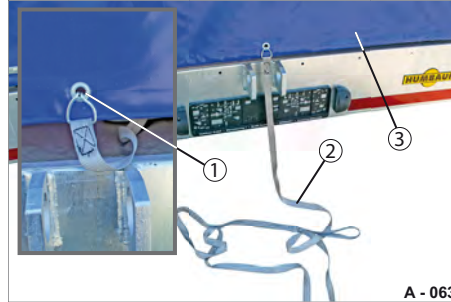

Fig. 68 Roll out curtain section
- ▶ Remove and hold the operating belt (Fig. 68/2).
- ▶ Slowly let the curtain section (Fig. 68/3) roll out.